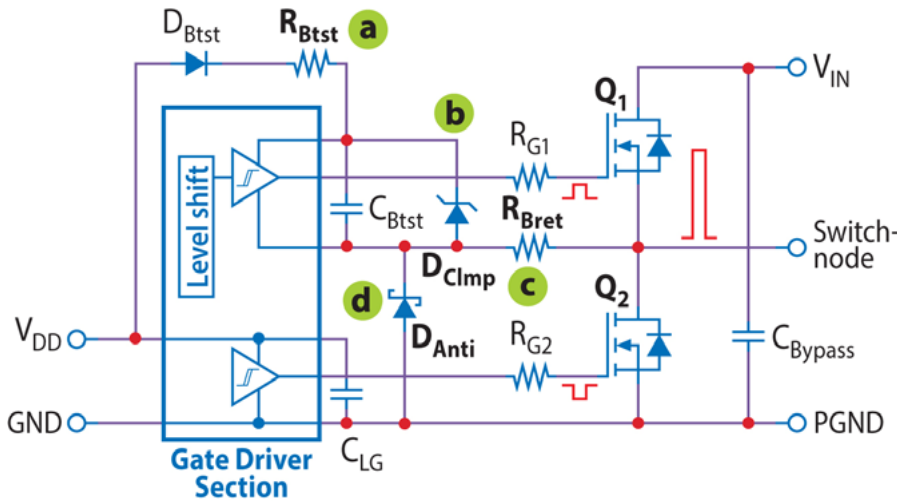
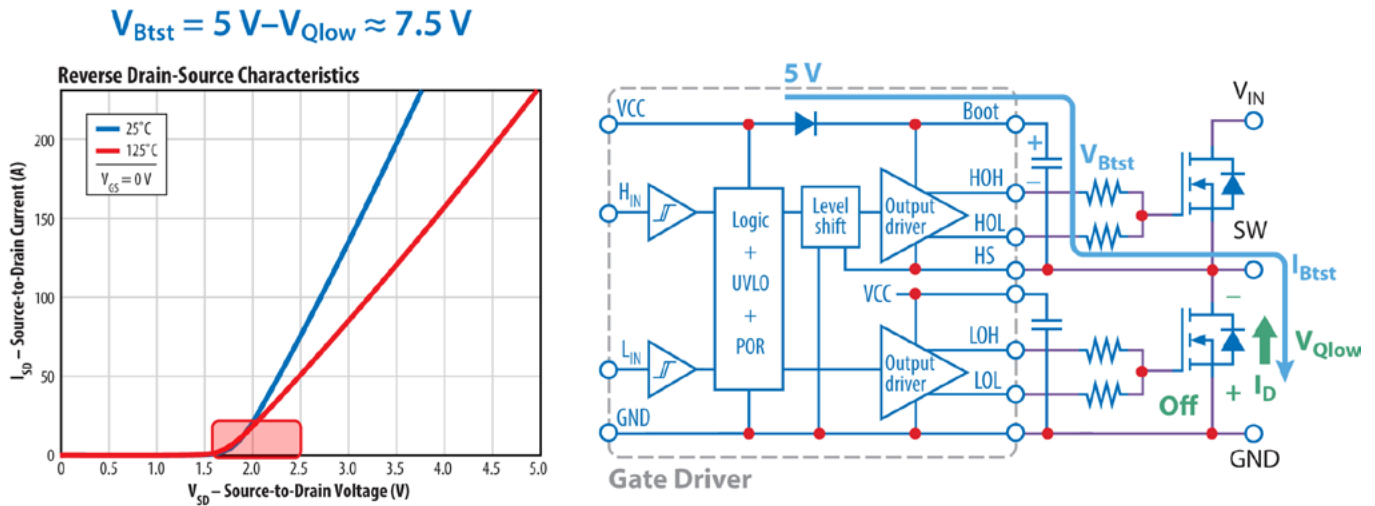

Figure 1: Recommended Si Gate driver augmentation for GaN FET compatibility.
Figure 2: Bootstrap charging path during dead time.
Once a compatible MOSFET driver has been identified, then the following steps can be implemented to ensure highest compatibility with GaN FETs. Refer to figure 1 for details with the accompanying explanations. *General GaN FET driving recommendations [1] should always be followed in addition to these recommendations.*
1. **Bootstrap Diode:** For an external bootstrap diode, use the smallest possible size, capacitance, and current rating Schottky diode, such as a BAT54KFILM [2], and connect it in series with a current limiting resistor as shown in Figure 1 (a). The Schottky diode ensures the lowest loss in voltage ($V_{boot} - V_{sw}$) thus maintaining the driver voltage as close to 5 V as possible. The small series resistor limits the current in the bootstrap diode when any of the protection circuits kick in. It should be noted that this resistor may have an impact in the minimum pulse width required to recharge the bootstrap capacitor. Drivers with an integrated 5 V LDO after the bootstrap diode do not require the series resistor or additional circuit protections subsequently presented as those recommendations become optional.
voltage during dead-times with the low-side device in reverse conduction. A good example would be MM5Z5V6ST1G [3] with a Zener voltage of 5.6 V as shown in Figure 1 (b). Both the bootstrap capacitor and Zener diode should be placed as close as possible to each other, and as close as possible to the gate driver.
3. **Gate Return Resistor:** Adding a gate return resistor, as shown in Figure 1 (c), for the high side FET can protect the IC from a large negative voltage on the switch node during reverse conduction of the low side GaN FET as shown in Figure 2. The value of this resistor also depends on the turn-off damping and timing needed for the upper device gate circuit. Using this resistor requires an equivalent reduction in the turn-on resistor for the gate to compensate for its resistance.
4. **Reverse Conduction Clamp:** An anti-parallel Schottky diode across the low side of a half-bridge topology, as shown in Figure 1 (d), can limit the magnitude of negative switch node voltage the driver is exposed to. Some gate drivers become sensitive to or may even fail when the switch-node falls below certain voltages below the ground reference [4]. The voltage rating of this diode should match that of the low side GaN FET. The current rating can be significantly lower than that of the low side FET because it only conducts during dead times, so it should be selected based on its pulsed current rating.